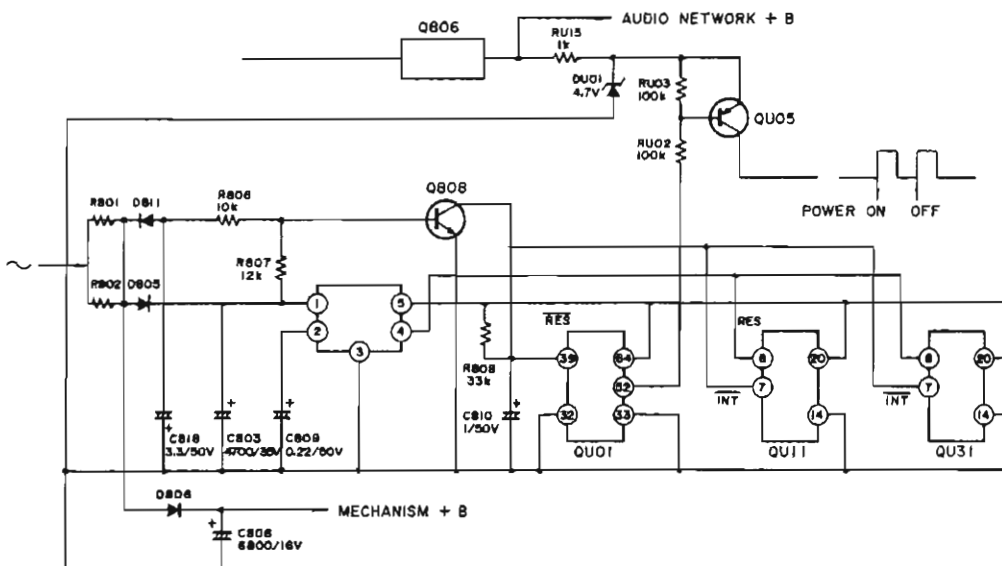
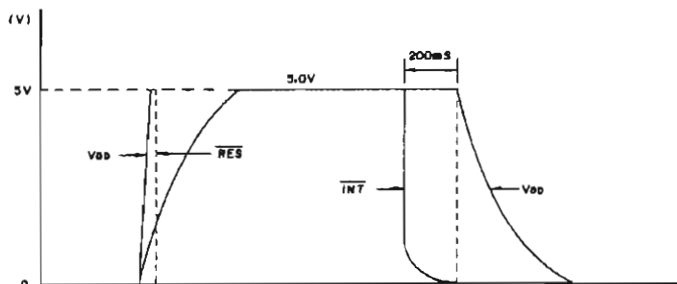

Figure 4
Figure 5
Figure 5 shows the leading and trailing characteristics of each VDD, $\overline{\text{INT}}$ and $\overline{\text{RES}}$ pin of the feature control microprocessor (QU01), mechanism control microprocessor (QU11, QU31), and figure 4 shows its diagram. Each timing is important for the normal function the microprocessors.
- a) Check the waveform of QU11 pin ⑥.
- b) Check the rising characteristics of VDD, $\overline{\text{INT}}$ and $\overline{\text{RES}}$. When they go high with the rising characteristics shown in Fig. 5, they are normal.